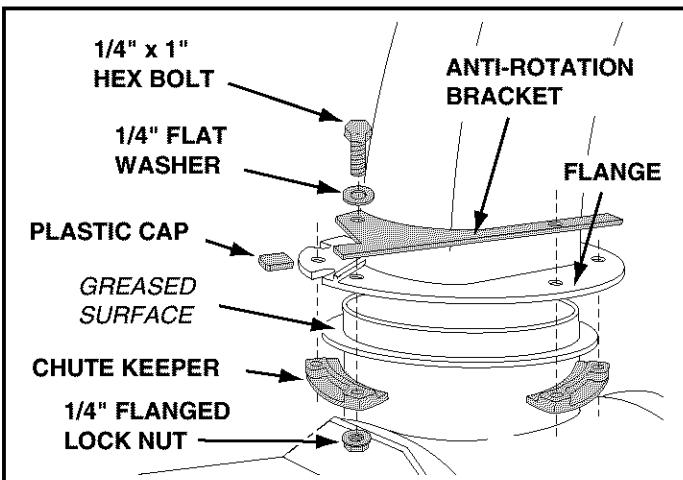

FIGURE 20 **RIGHT SIDE VIEW**
- Coat the top of the ring around the discharge opening with general purpose grease. See figure 20.
- Place the discharge chute (facing forward) onto the ring. Place the anti-rotation bracket on top of the chute flange, aligning it with the holes on the right hand side of the flange. Attach the three chute keepers (right side up as shown) to the bottom of the flange using six $1\frac{1}{4}$ " x 1" hex bolts, 1/4" flat washers and 1/4" flanged lock nuts. **Tighten carefully** so that the nuts are snug but do not dig into the plastic chute keepers. See figure 20.
- Place the plastic cap onto the short end of the anti-rotation bracket. See figure 20.